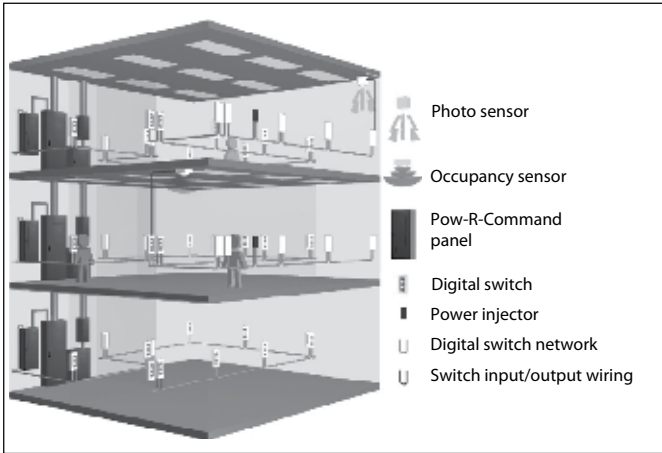

Figure 3-13. Lighting control in a commercial building
- Select PRC2000 Panelboard Chassis from **Figure 3-13**.
- Layout panel as shown in **Figure 3-13**. Total "in." determine box height shown in **Table 3-42** (When total "in." units exceeds the number shown, use next size box size).
- Layout information from **Figure 3-13**.